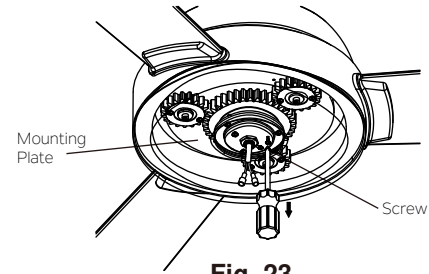

Fig. 23
Step 1. Remove the screw marked with a dot label which preinstalled on the mounting plate and keep for later use. Loosen the other two (do not remove). (Fig. 23)